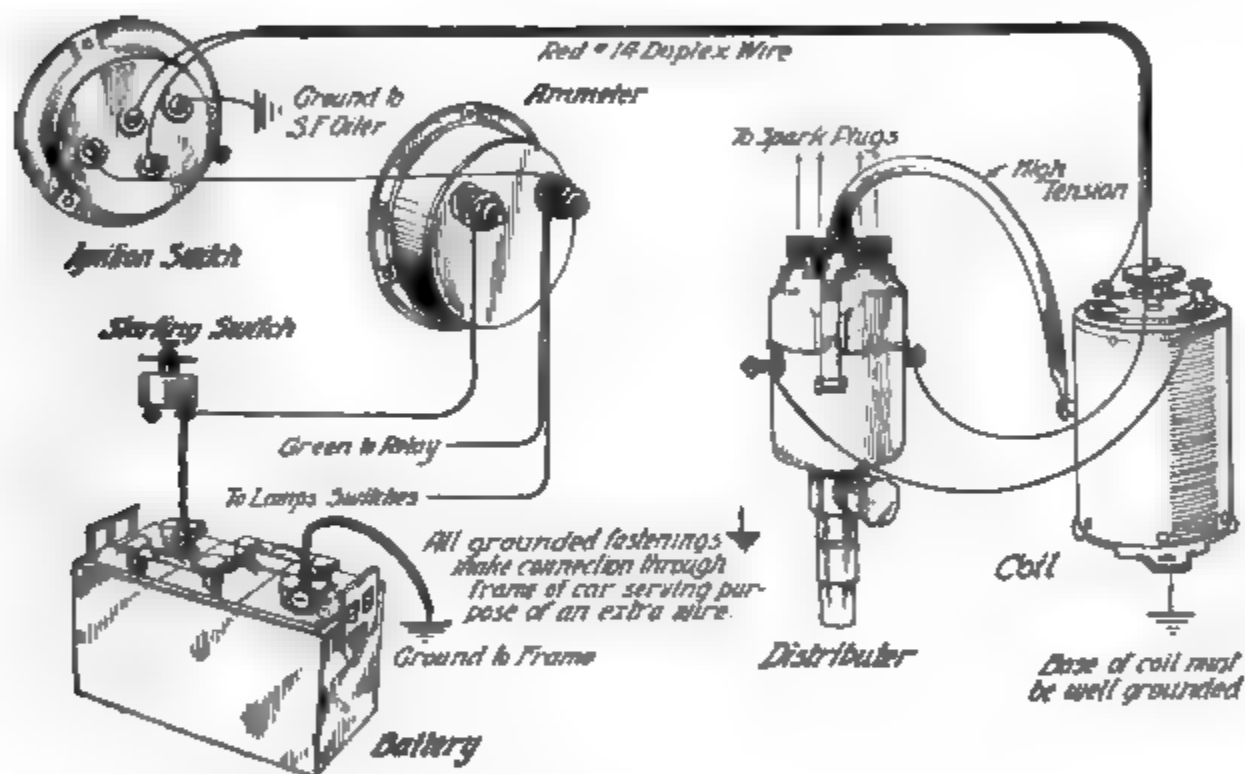

Fig. 125. Essentials of Battery Ignition System
*Remy System.* The relation that the various essentials of a battery-ignition system of the types here described bear to each other is made clear by glancing at the graphic wiring diagram of the Remy system, Fig. 125. The starting switch shown at the top has, of course, no connection with the ignition system but is included in the illustration because the current-supply wire for the latter is connected to one terminal of the starting switch instead of be-
*Remy System.* The relation that the various essentials of a battery-ignition system of the types here described bear to each other is made clear by glancing at the graphic wiring diagram of the Remy system, Fig. 125. The starting switch shown at the bottom has, of course, no connection with the ignition system but is included in the illustration because the current-supply wire for the latter is connected to one terminal of the starting switch instead of being
*Ignition Switch.* From the ammeter, Fig. 125, the current passes to the ignition switch of the *reversing* type, that is, it serves to change the direction in which the current flows every time it is turned on. For the purposes of either ignition or lighting, it is immaterial in which direction the current flows, but the latter has an important bearing on the life of the expensive contact points in the interrupter. As has been explained previously, the passage of a current through contact points or across a gap tends to transfer the material of the positive electrode to the negative, resulting in the formation of a cone at the positive and a crater, or hollow, at the negative. When the points have worn to this condition through long service, the contact is poor and uncertain, while the points are apt to stick, and to put them in good working order means filing away some of the platinum which is more costly than gold. The use of a reversing switch, which alternately makes the same point positive and negative, keeps both contacts in better condition for a greater length of time.
*Interrupter and Distributor.* The interrupter is enclosed in the same housing as the distributor, Fig. 125, and is directly below it. As with a magneto, the coil is grounded by attaching it to its pedestal